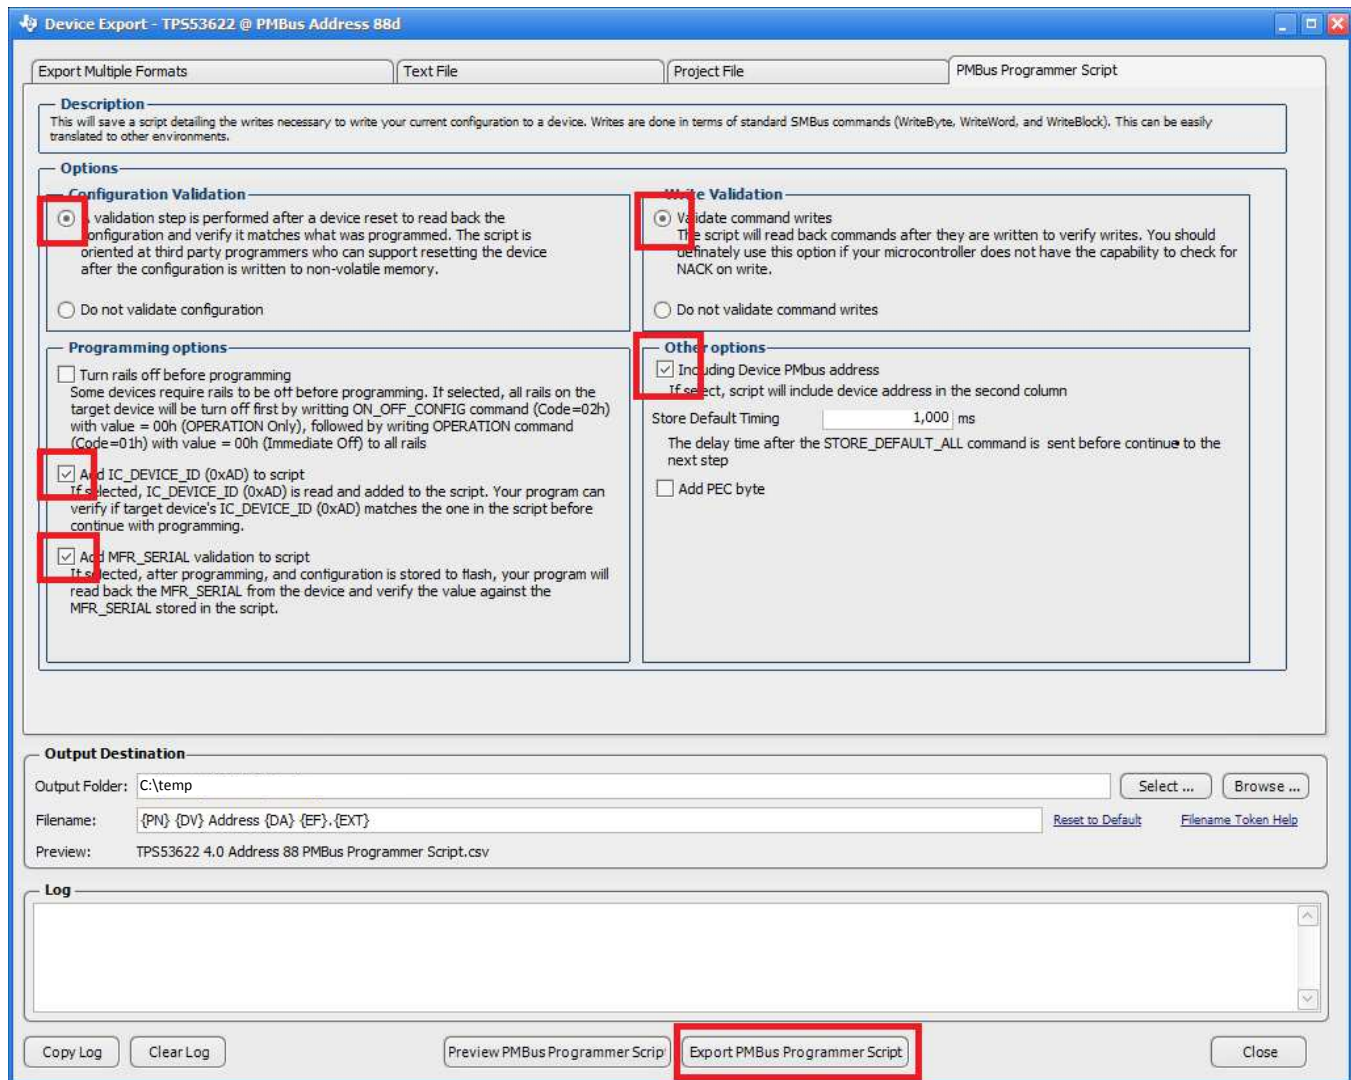

Figure 29. Recommended CSV Export Settings
4. Use the settings shown in Figure 29 for most situations. Third-party software sometimes has other requirements.